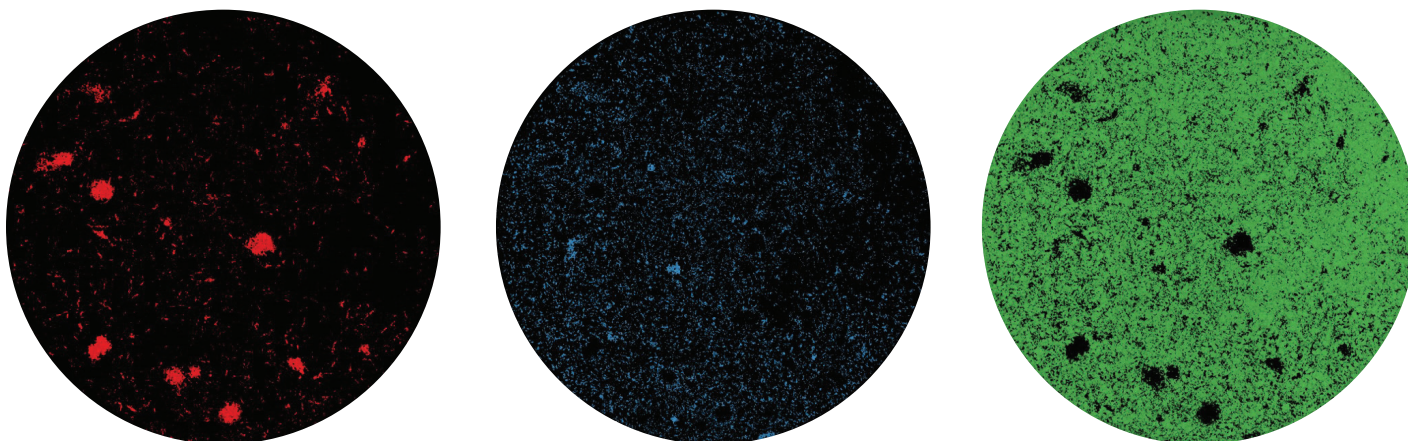

Figure 3. From left to right: Individual chemical maps of CBZ forms I & III and cellulose in the tablet.
Images of 13 mm tablets with 10 μm pixel size, obtained in 27 minutes are shown on in Figure 2. Two formulations were studied: (1) 5.2% form I, 15.4 % form III, and (2) 15.3 % form I, 5.5 % form III, by weight, with the remainder being cellulose. The measured surface concentrations, in which the density of the polymorphs is not considered, showed excellent correlation with the known percentages by weight. The chemical distribution of the three major constituents can be individually displayed, as shown in Figure 3.